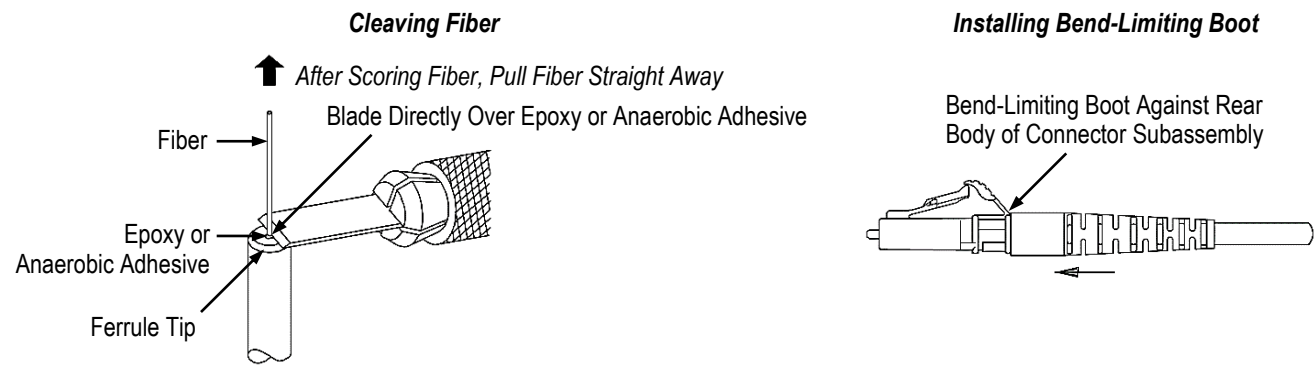

Figure 6
3. Place the blade of the scribe tool directly above the epoxy or anaerobic adhesive. Do not allow the blade to make contact with the epoxy or anaerobic adhesive. Refer to Figure 6.
Slide the bend-limiting boot over the cable until it is against the rear body of the connector subassembly. See Figure 6.